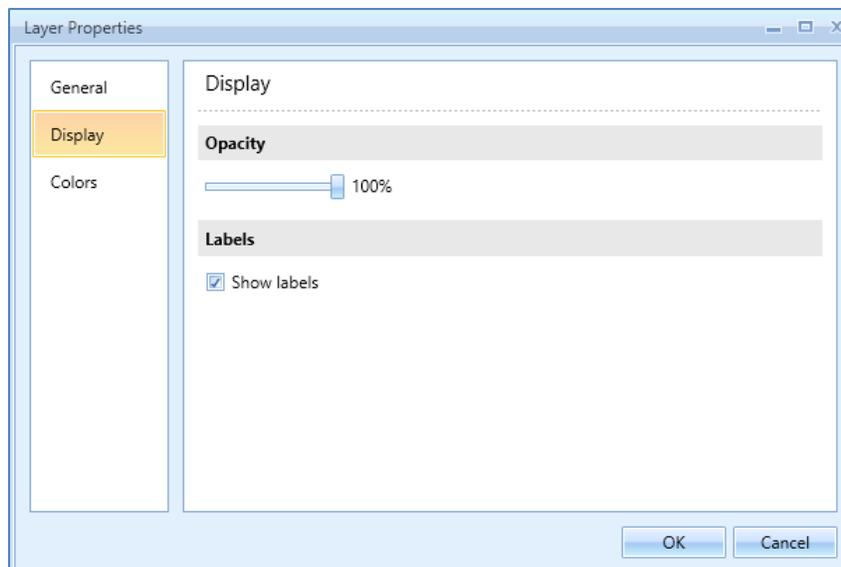

Figure 3-16 Layer Properties Dialog – Display
4. Click *Display* to change opacity and show or hide labels (Figure 3-16).